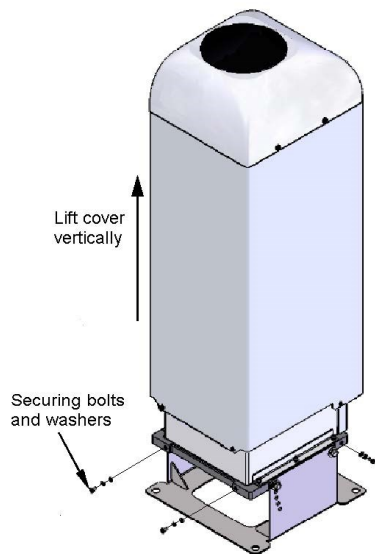

Figure 4-7. Removing the cover
1. Remove four screws (Figure 4-7 (p. 24)).